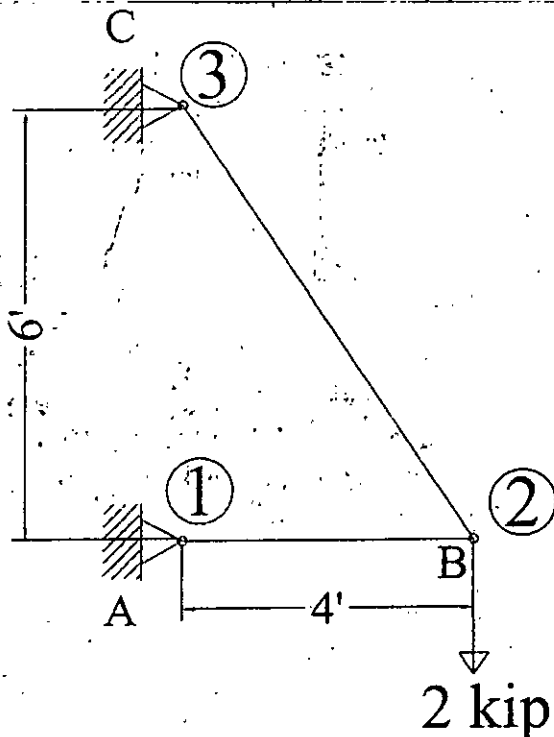

Figure 3.
3. A truss system is given in figure 3. Compute the elements of the global stiffness matrix for the truss system. Using the global stiffness matrix, solve the matrix to determine the support reactions at support A and B. The node indices to be used for computing the join co-ordinate matrix, member connectivity matrix and member destination vector are provided within the circle in the figure. Member AB runs between nodes '1' and '2'. Member BC runs between nodes '2' and '3'. Assume, Modulus of Elasticity, $E = 1000 \text{ k/ft}^2$ and cross sectional area, $A = 0.1 \text{ ft}^2$ for both the members AB and BC.